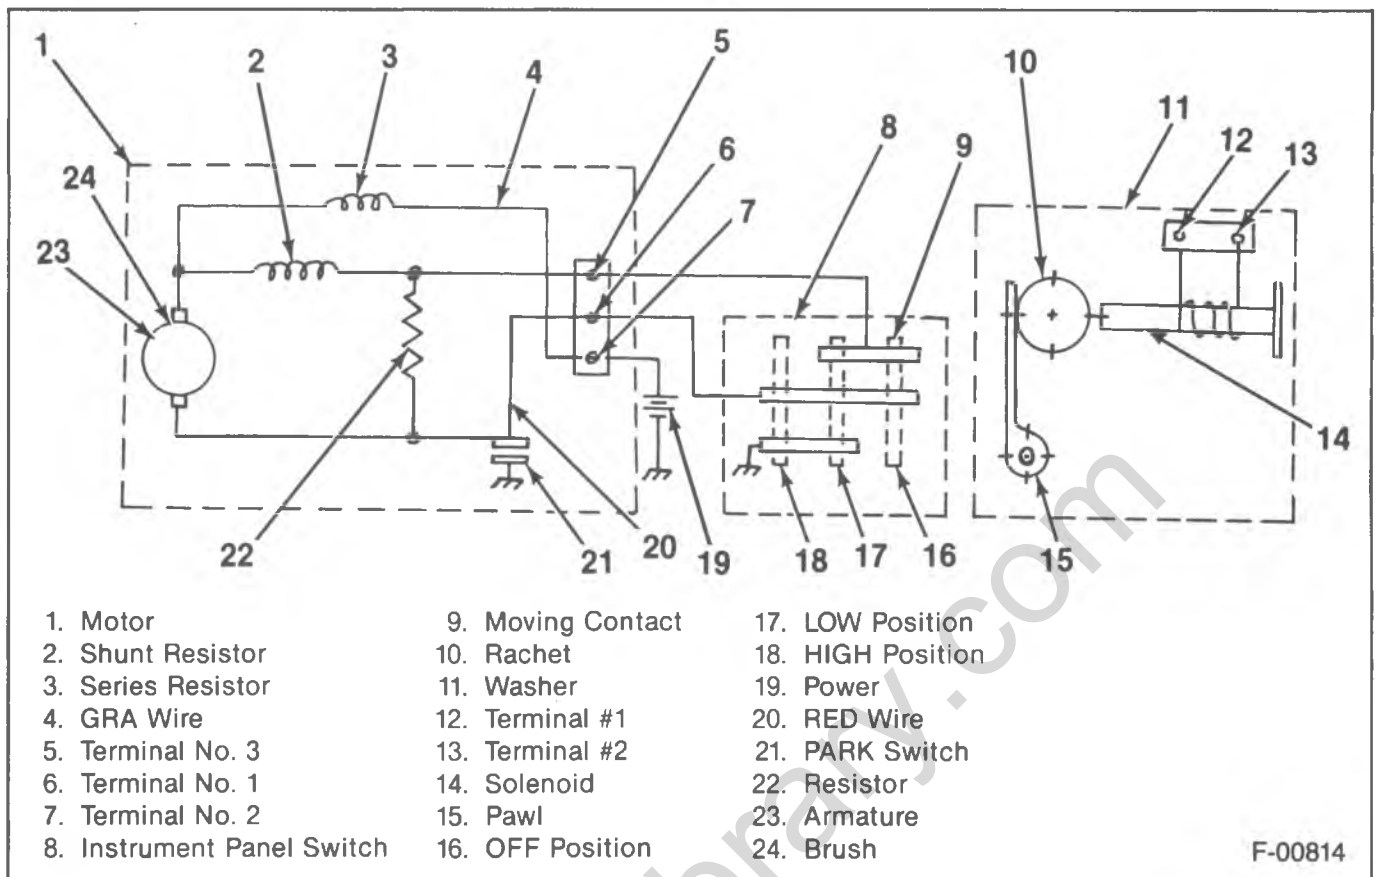

Figure 48—P-Model Wiper Diagram
Turning the wiper switch to the LO speed position completes the circuits from the wiper terminals 1 and 3 to ground (Figure 48). Current then flows from the battery via wiper terminal No. 2 through the series field and divides; (1) part passes through the armature to ground via wiper terminal No. 1 to the wiper switch and (2) the second part